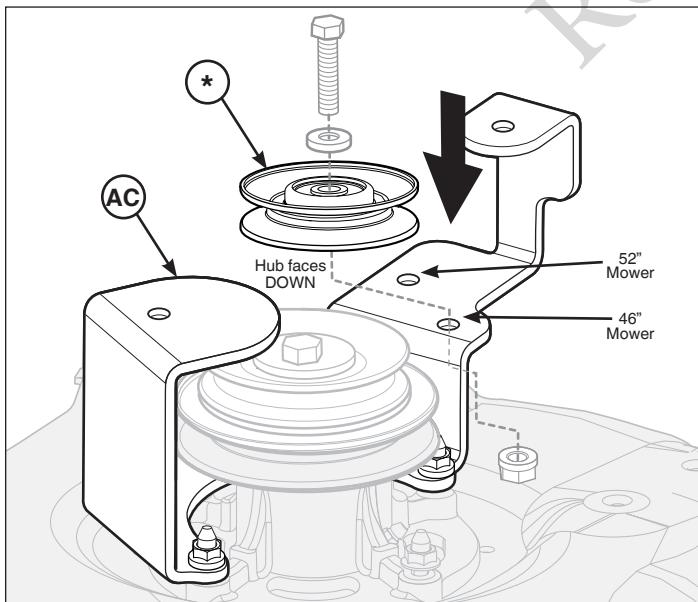

Figure 5
3. The idler pulley (*, Figure 5) is pre-assembled onto the idler cover support (**AC**). Placement of the pulley needs to be assembled in the appropriate hole to accommodate the 46" or 52" mower as shown in Figure 5.